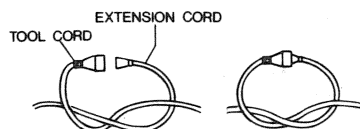
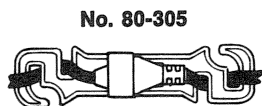

FIGURE 8A
FIGURE 8B
5. **GUARD AGAINST ELECTRIC SHOCK** — Repair or replace damaged mower cord or extension cords immediately. To prevent disconnection of mower cord from the extension cord during operation, knot the cords exactly as shown in Figure 8A or use a cord connector shown in Figure 8B.
DO NOT connect the extension cord to power source until you have finished reading this manual and are ready to start mowing. To prevent disconnection of mower cord from extension cord when mowing, (1) make a knot as shown in Figure 8A, or (2) use the accessory Cord Connector shown in Figure 8B (available at small extra cost from your dealer).